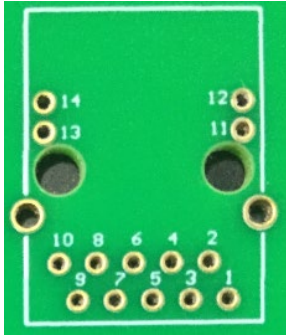

Figure 9: PCB layout.
- Diameter of soldering PAD: 1.40 mm (Figure 9).